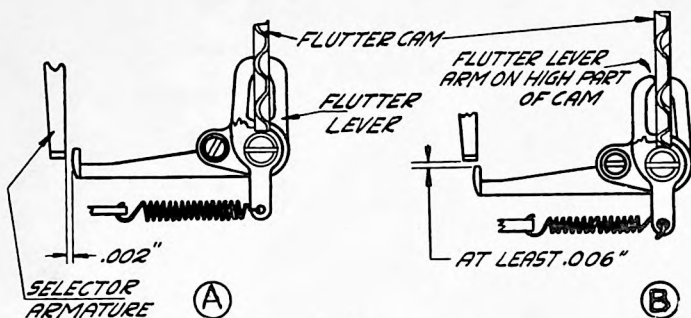

Fig. 6
12. MAGNET BASE POSITION (Figure 6)
- .2 Due to the variations, all the selector lever arms may not line up with the right side of the cams. It is, therefore, satisfactory if one or more arms line up with the right side of the cams, provided the other cams are fully on. Now pivot the magnet base on the front mounting screw so that there is .002" clearance between the side of the selector armature and the end of the flutter lever throughout its entire travel when the selector armature is in the spacing position (See "A" Fig. 6). Recheck the alignment of the marking cams and marking arms. Tighten the mounting screws.
- 12.3 on each high part of the flutter cam and the selector cam drum is on the spacing side (See "B" Figure 6).